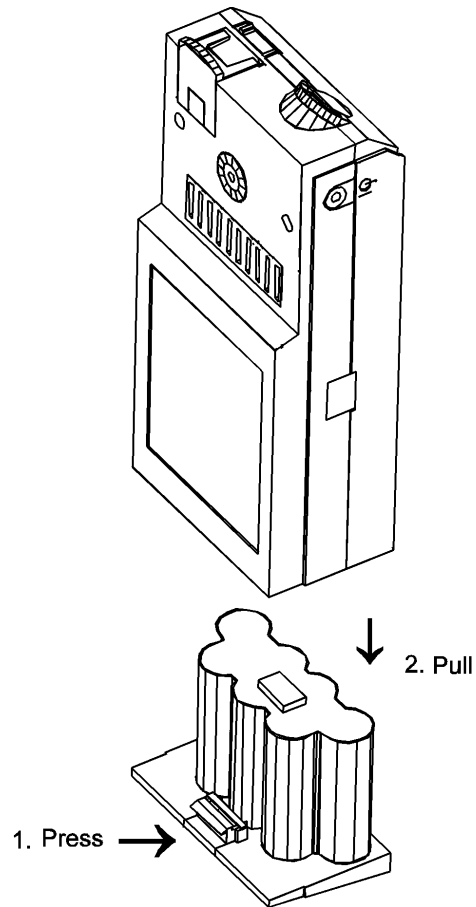

Figure 7-1: Removing the Battery Pack
1. Be sure the monitor is disconnected from mains power and remove the battery pack from the monitor; press the release button at the bottom of the monitor and pull out the battery pack as shown in Figure 7-1: Removing the Battery Pack.